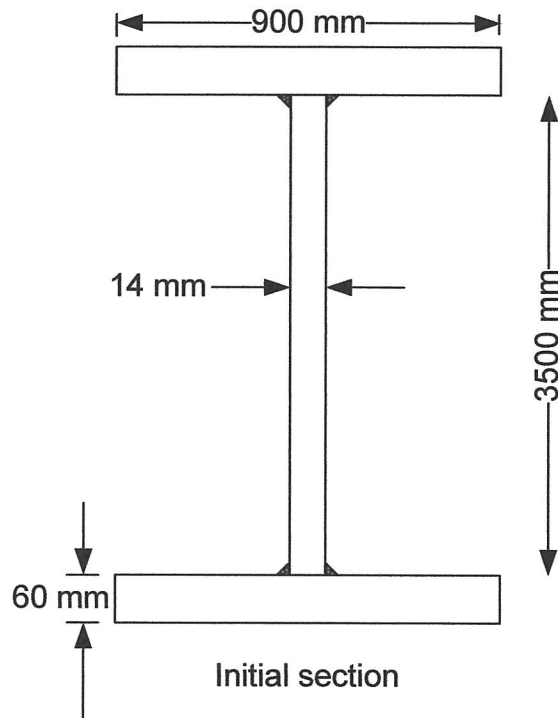

FIGURE Q2
- (c) **Figure Q2** shows the proposed section of plate girder for a building. The welding size is 12 mm, grade of the steel for flange and web is 255 N/mm².